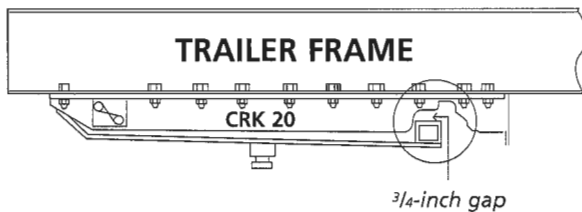

FIGURE 1
- a.** The ride height must be  $\frac{3}{4}$ -inch between the top and bottom plates at the rear of the unit. The location for this measurement is circled in (Figure 1). Be sure the unit is fully inflated before measuring for the proper ride height.
- c.** The  $\frac{3}{4}$ -inch gap between the top and the bottom plates may easily be checked by inserting a  $\frac{3}{4}$ -inch diameter bolt between the plates at the location circled in (Figure 1).